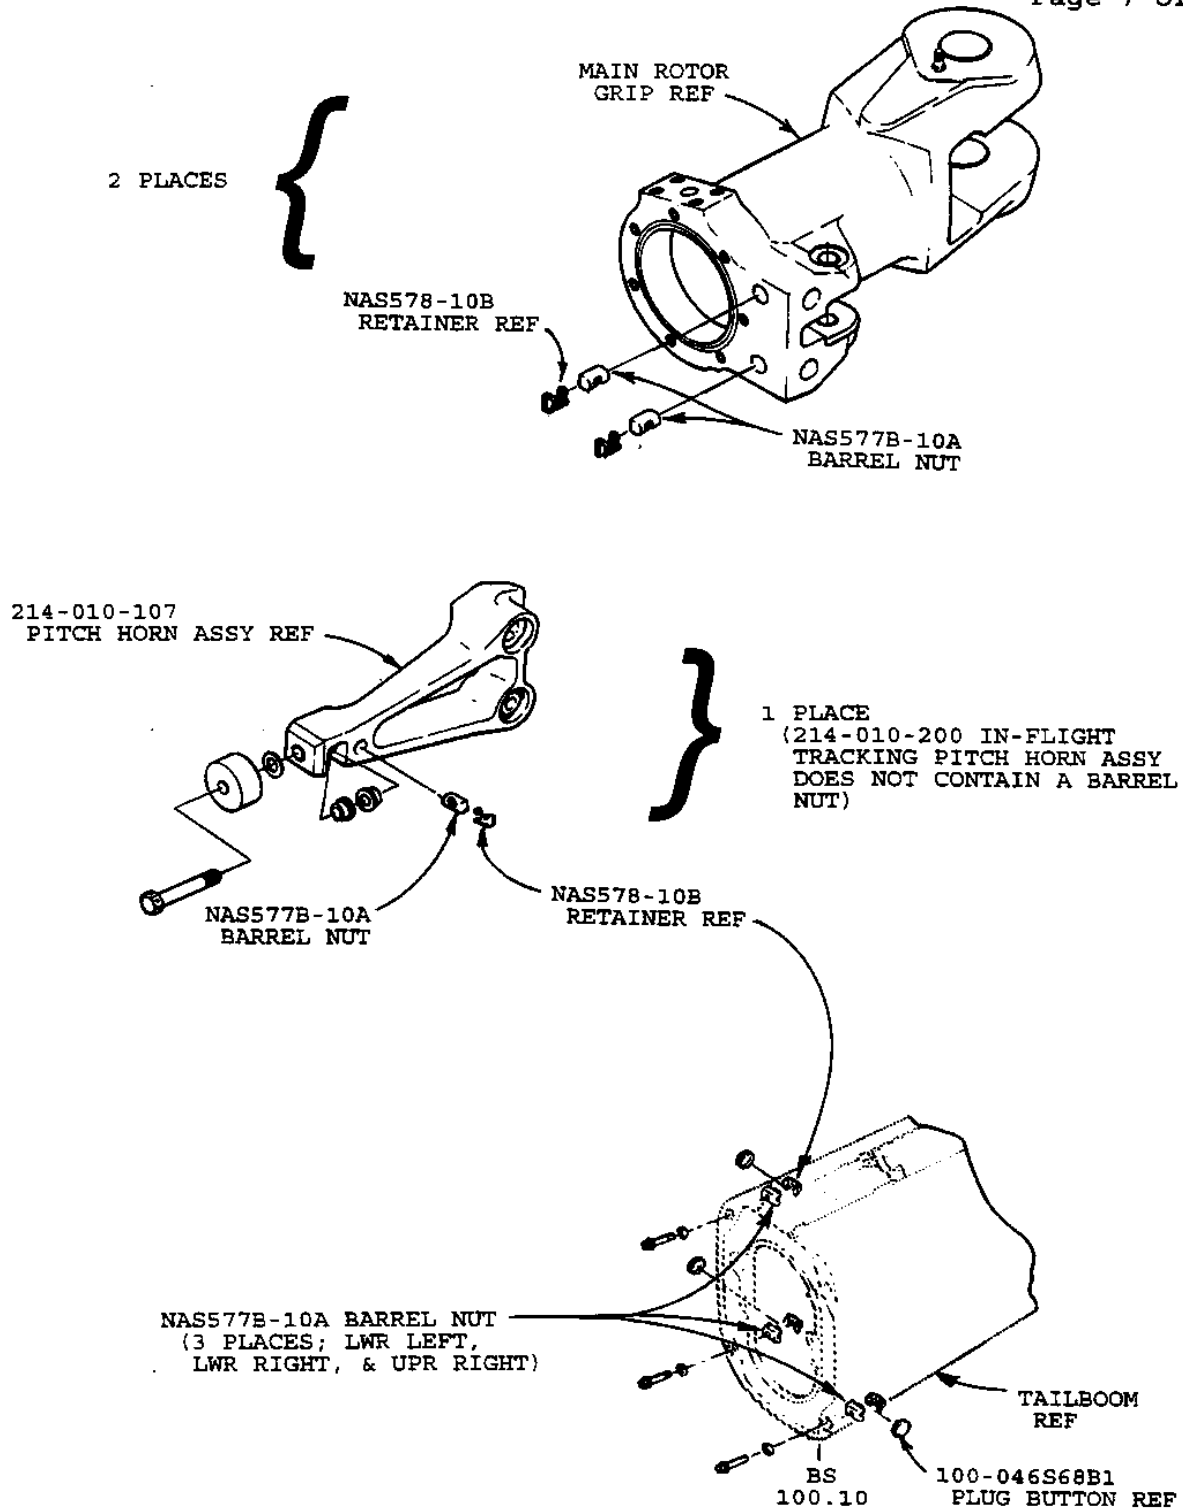

FIGURE 1
1. Gain access to the component/assembly/barrel nut being inspected. Refer to Figure 1 for P/N NAS577B-10A applications. The following inspections also apply to all P/N NAS577B-10A barrel nuts which may be on hand as individual spares.